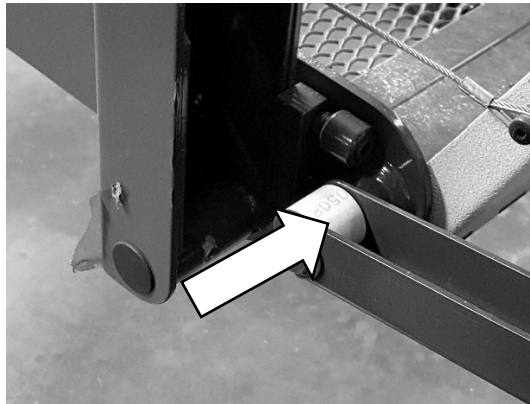

Figure 30. Ensure Bushing Installs Correctly
1. Refer to **Figure 30**. Slide lower portion of Knuckle Link Arm onto platform pivot.